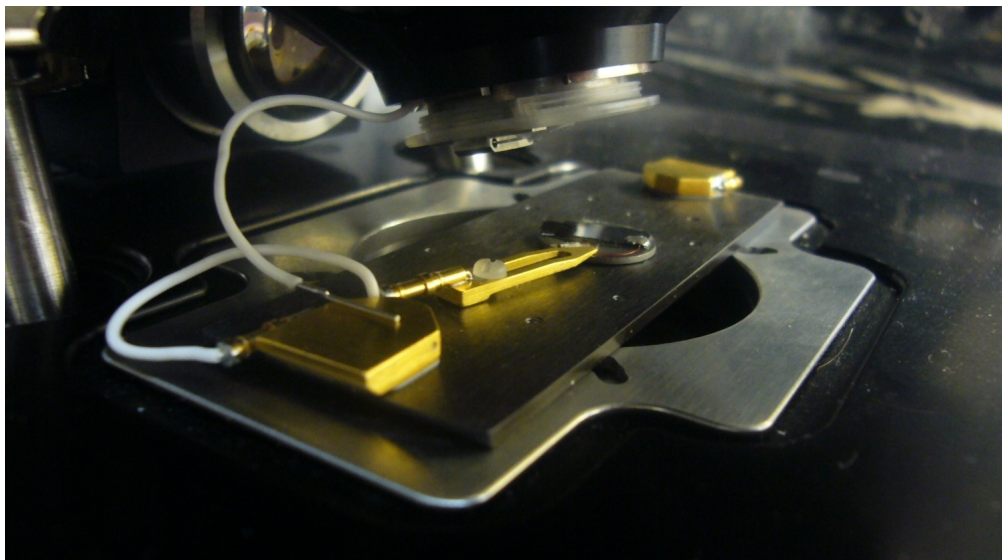

Figure 30.5.: Connect the bias wire that drops from the cantilever holder down to the magnet on the ORCA sample holder magnet as shown.
3. Place the whole sample mount on the MFP-3D scanner plate. See Figure 30.5 on page 427
3. When the head is placed over the sample, the end of the bias wire should magnetically attach to the gold plated magnetic block at the edge of the sample mount. See Figure 30.5 on page 427.